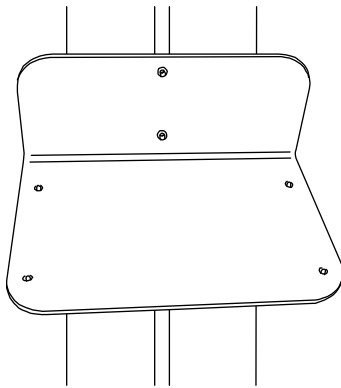

Figure 11 Install mounting shelf on column (printer mounting shelf shown).
- 4 Using the Allen wrench, tighten an accessory screw in each of the two nuts on the mounting shelf. See Figure 11.